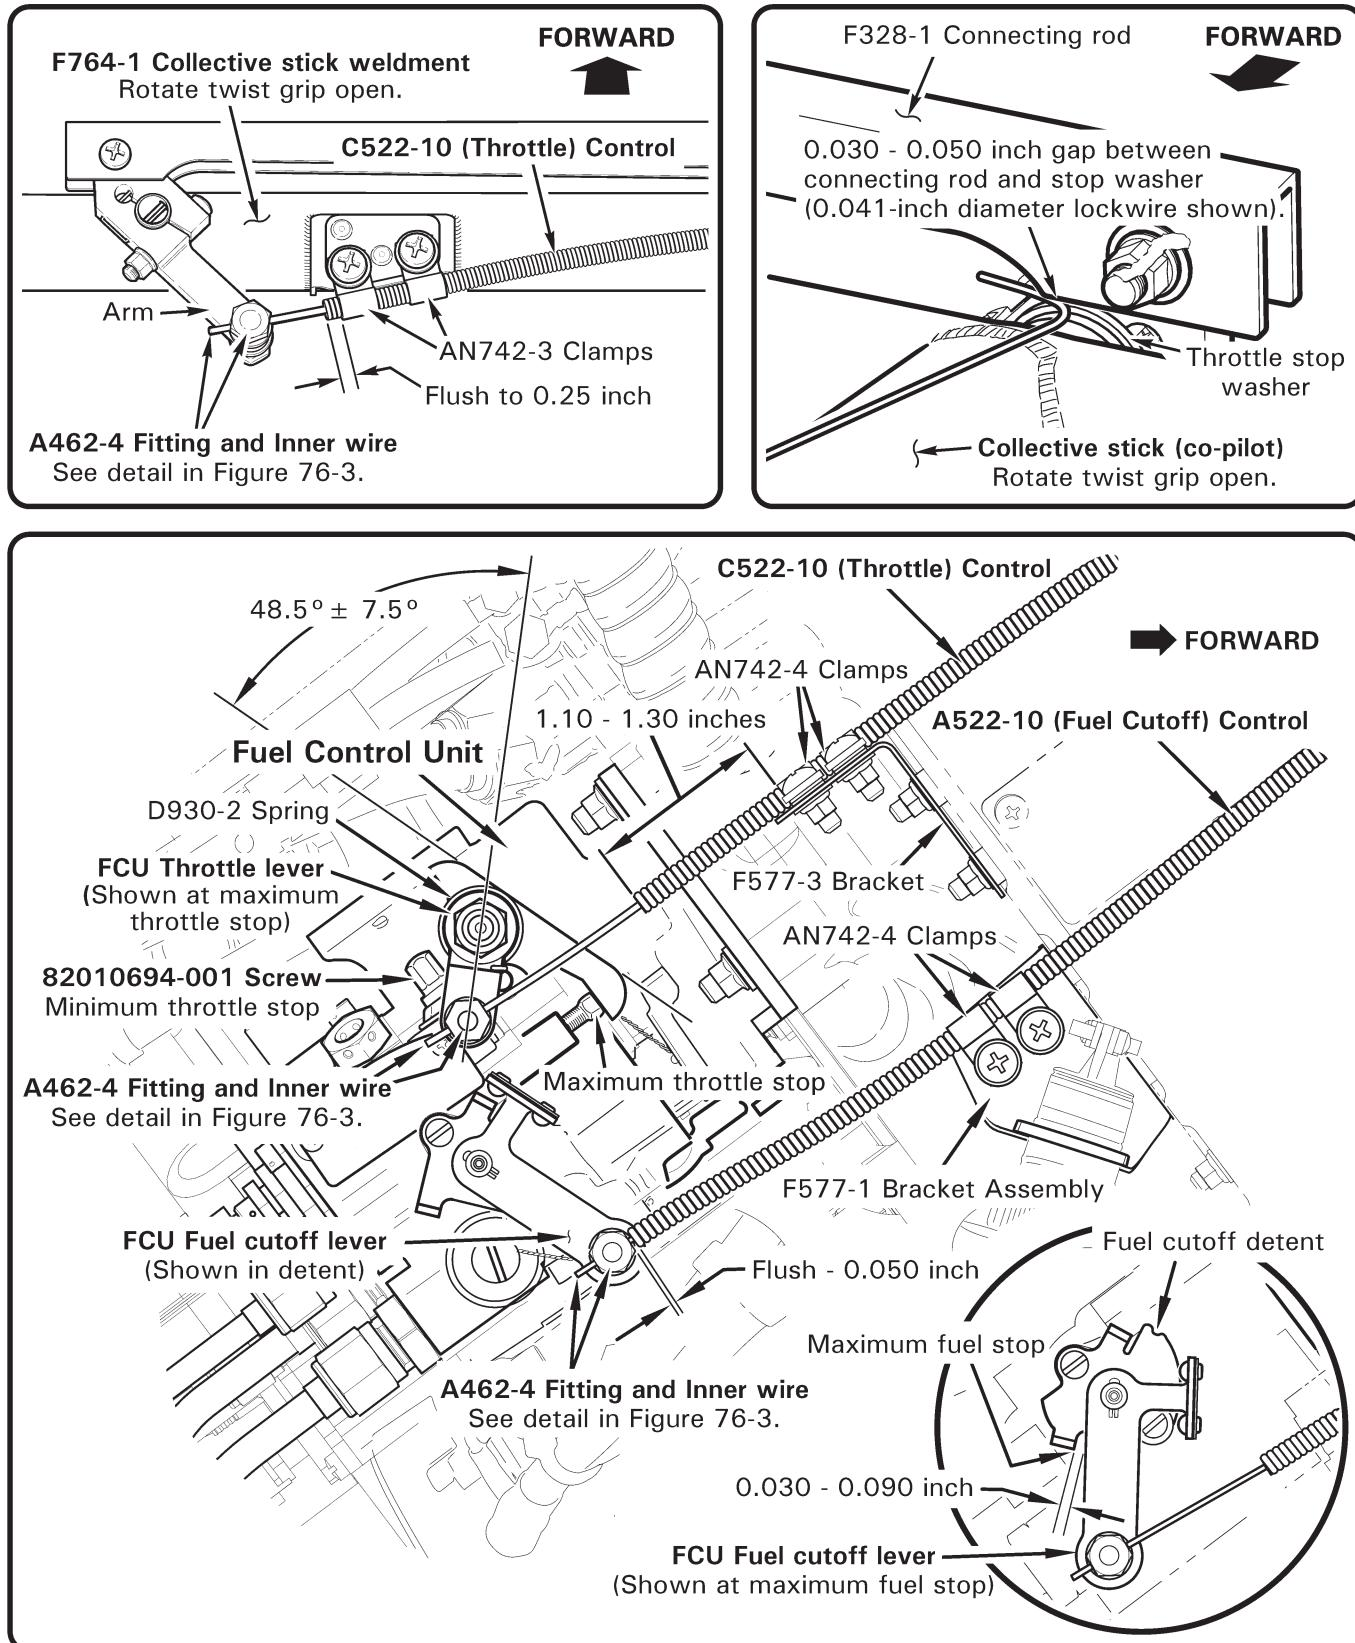

FIGURE 76-1 FUEL CONTROL UNIT
2. Refer to Figure 76-1. Remove fasteners securing C522-10 throttle and A522-10 fuel cutoff control inner wires to FCU throttle and fuel cutoff levers.
2. Refer to Figure 76-1. Verify FCU throttle lever rigging angle is $48.5^\circ \pm 7.5^\circ$. As required, remove hardware securing serrated levers and reposition to proper angle. Install hardware, special torque nut per Section 20-33, & torque stripe per Figure 5-1.
2. Refer to Figure 76-1. Remove palnut and loosen nut securing A462-4 fitting and A522-10 (fuel cutoff) control inner wire to FCU fuel cutoff lever.